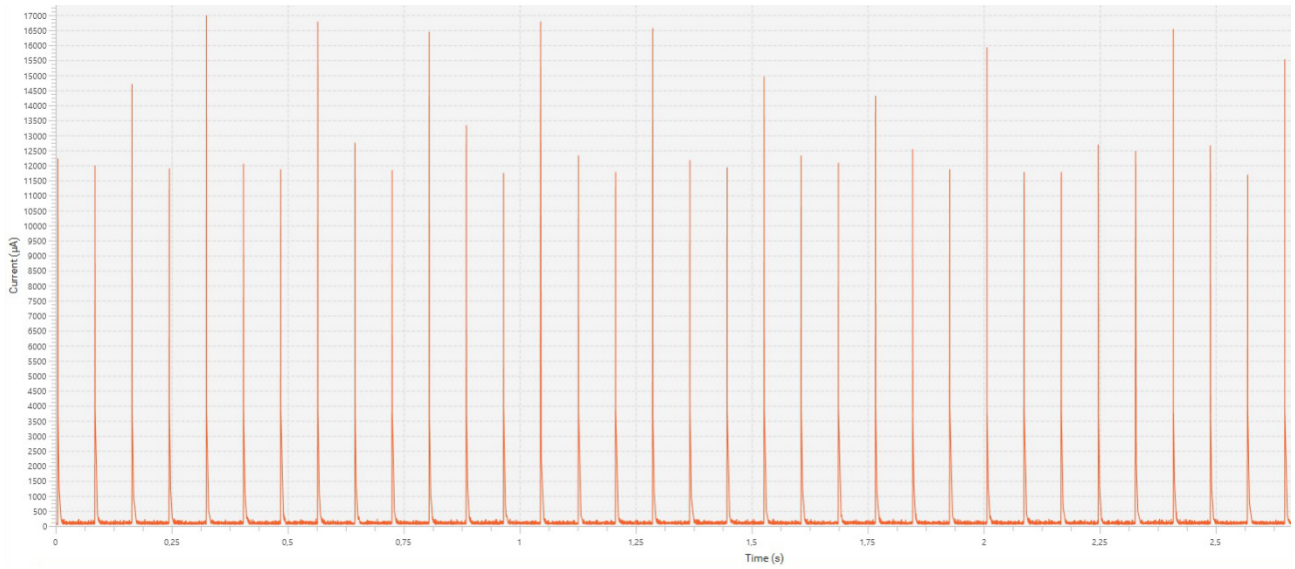
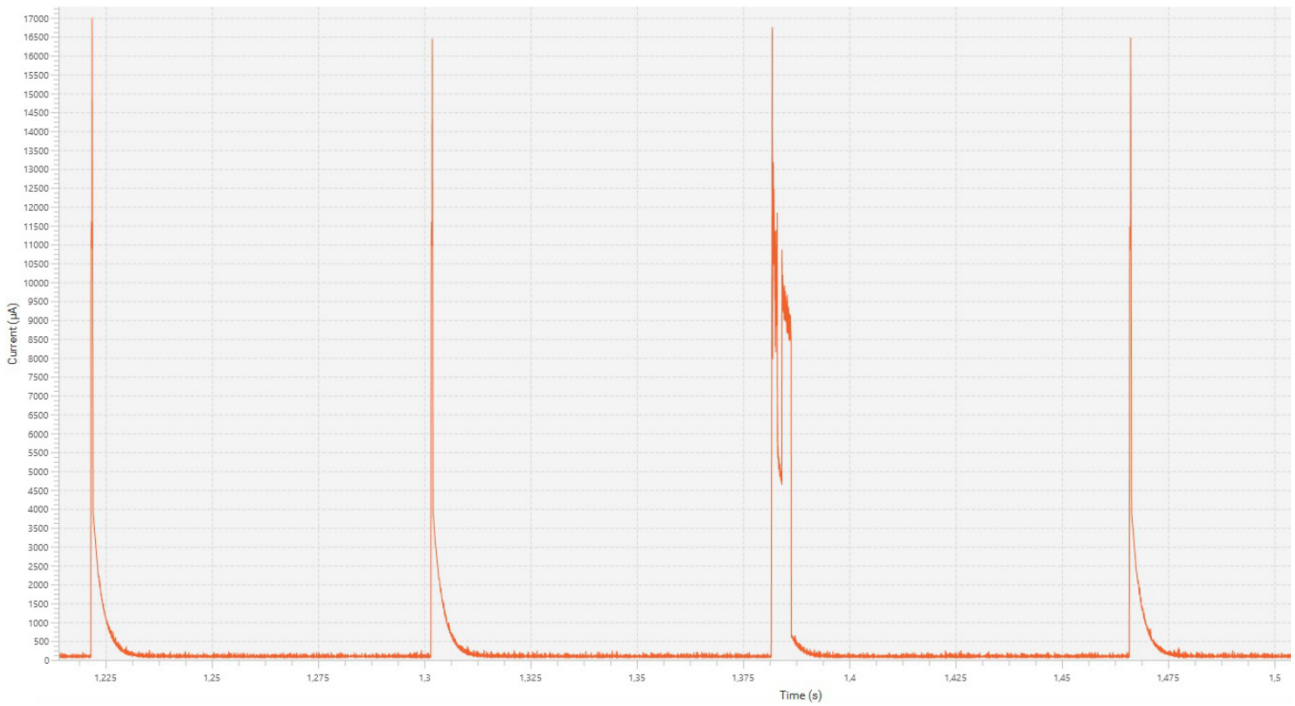
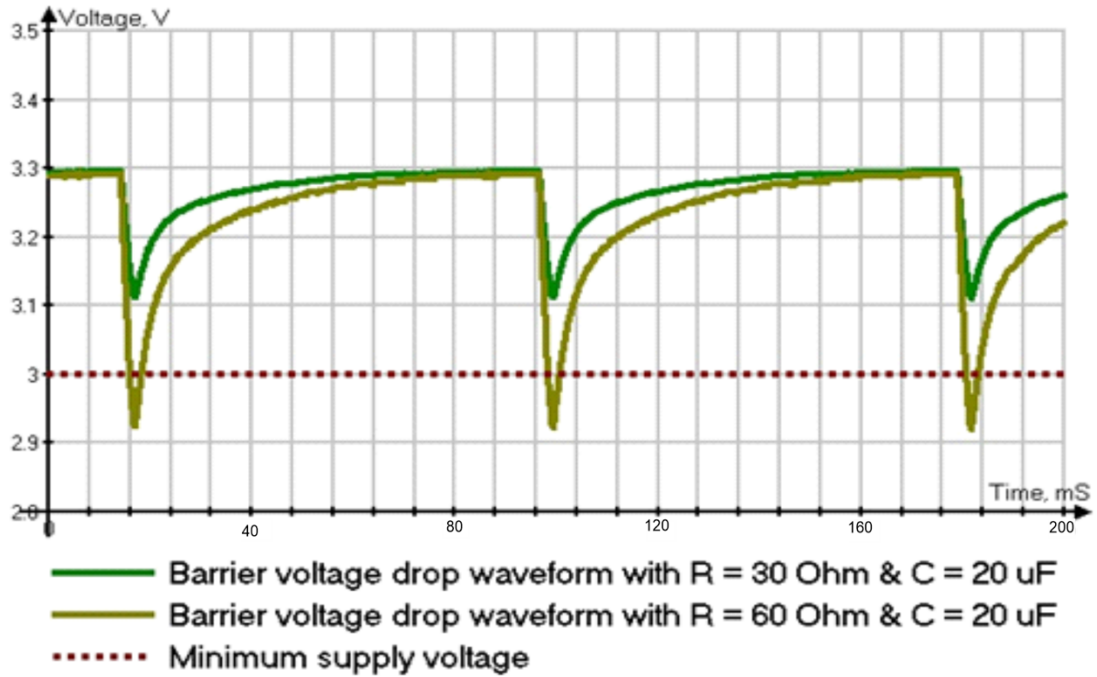
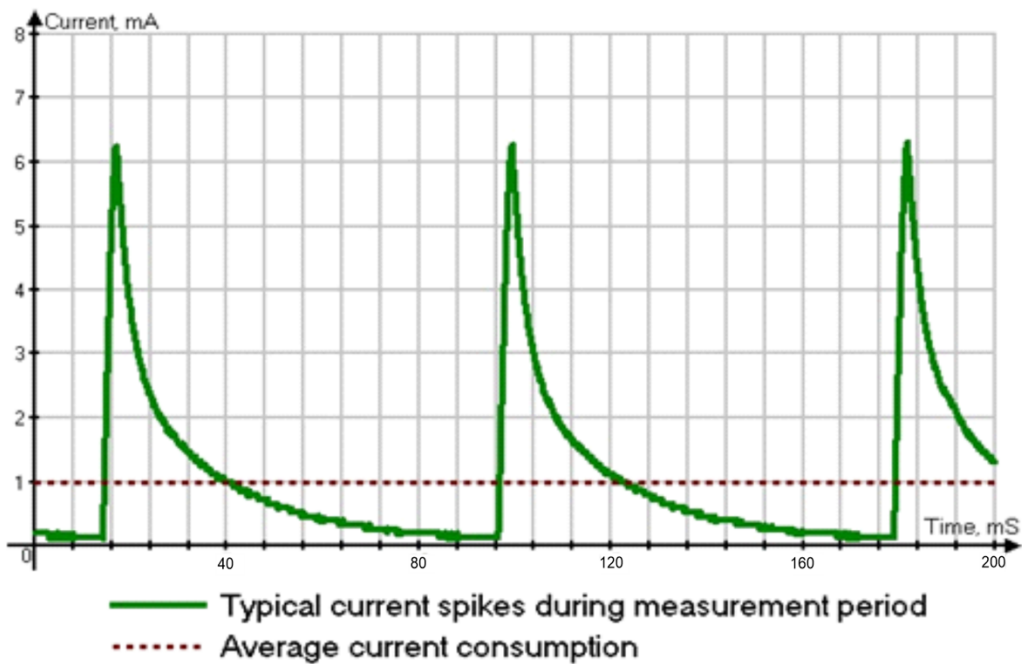

Fig. 2. Typical current consumption waveform
Fig. 3. Typical current consumption waveform when UART is active (<@> command)
Fig. 4. Typical barrier voltage drop waveform (3.3 V input)
Fig. 5. Typical current consumption waveform (3.3 V input, R = 30 Ohm, C = 20 uF)
- During operation, maximum surge current is 17 mA for 20 microseconds (see Fig. 2). Average current consumption is not more than 330 μ A when UART is active (see Fig. 3). For power consumption of sensor connected via barrier see Fig. 4 and Fig. 5.